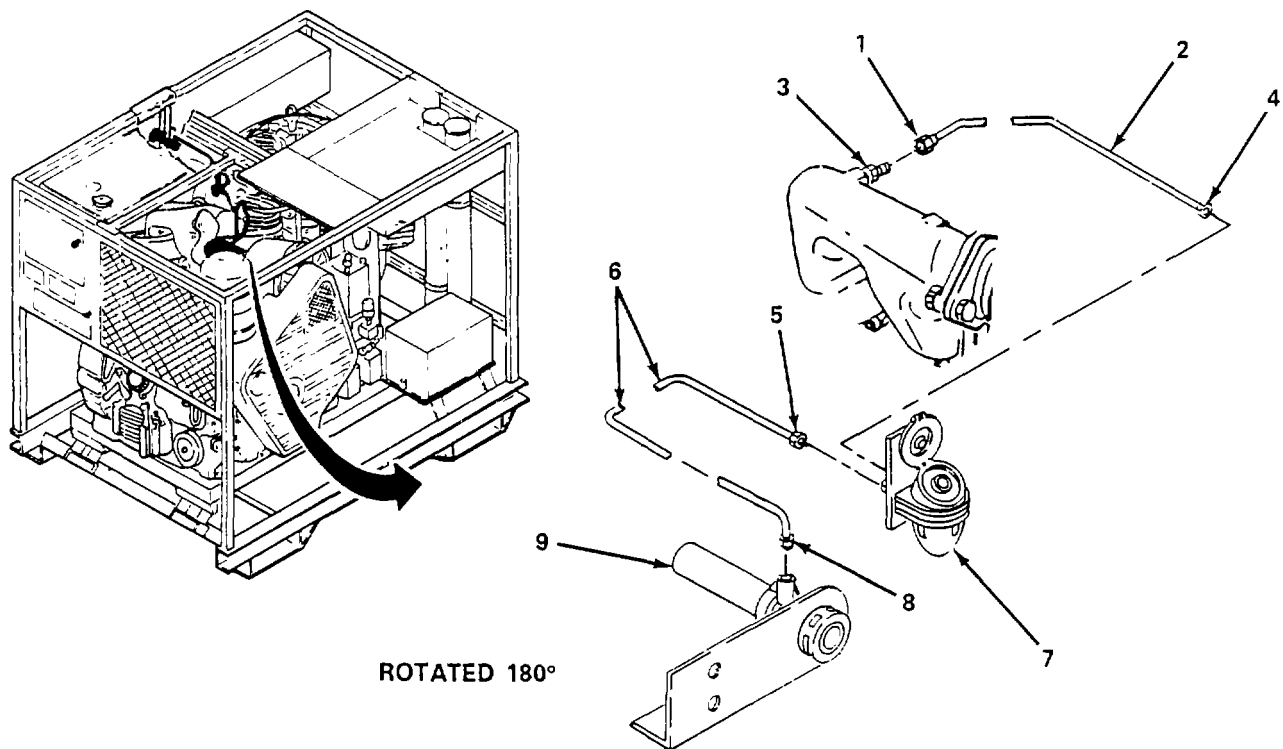

Figure 4-63. Hoses, Replace.
(1) *Replace hoses.* (figure 4-63)
- (a) Loosen fitting nut (1) and remove line (2) from manifold (3).
- (b) Loosen fitting nut (4) and remove line (2).
- (c) Loosen fitting nut (5) and remove line (6) from reservoir (7).
- (d) Loosen fitting nut (8) and remove line (6) from pump (9).
- (e) Install line (6) on pump (9) and tighten fitting nut (8).
- (f) Install line (6) on reservoir (7) and tighten fitting nut (5).
- (g) Install line (2) on reservoir (7) and tighten fitting nut (4).
- (h) Install line (2) on manifold (3) and tighten fitting nut (1).